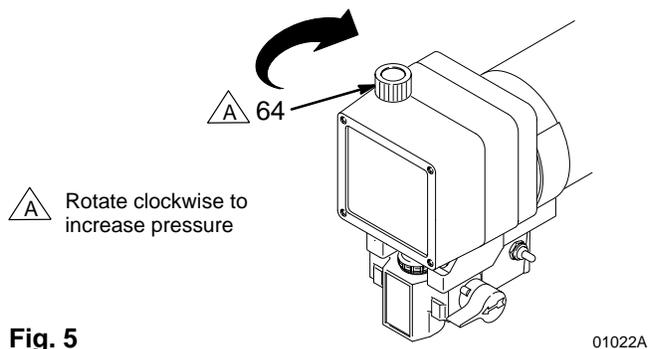

Fig. 5
The pressure control controls the motor operation so the sprayer maintains constant fluid pressure at the pump outlet. Turn the pressure control knob (64) fully counterclockwise to obtain the minimum setting. Turn the knob clockwise to increase pressure. See Fig. 5.